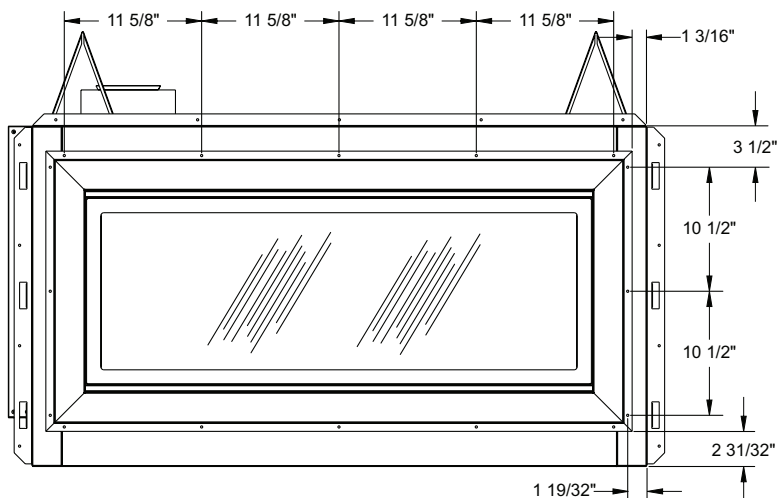

Figure 9 - Installing Exterior Door for See-Thru In/Out Application
1. Center and level exterior door on rear face of the see-thru fireplace. Exact dimensions for the location of the door mounting holes are shown in Figure 9.